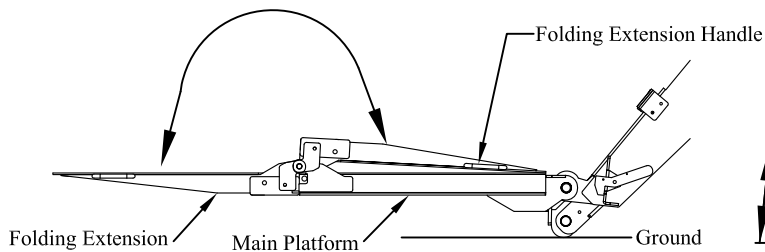

Figure 5: Steps 9, 10, and 14.
- Step 9. Stand off to the side and unfold the platform folding extension (Figure 5).
- Step 13. To close the platform, stand to the side of the platform, not under or behind the platform. With the liftgate lowered, close and lock the platform cart stops, if so equipped, then fold the folding extension by lifting on the handle (Figure 5).